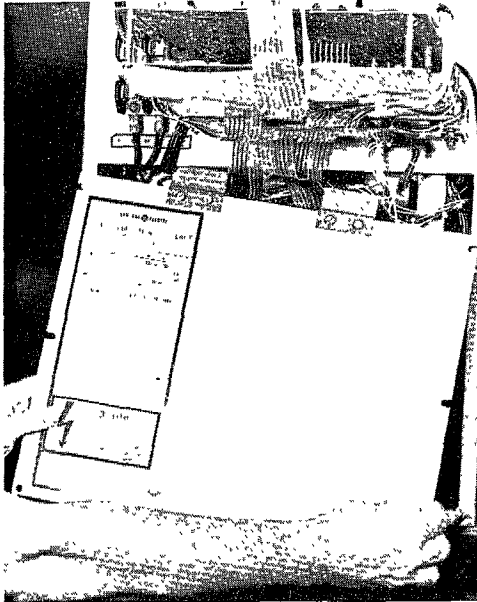

FIGURE 28A
- c. Remove the lower barrier by pulling out the bottom edge until it clears the two mounting studs, then pull down until the two clips at the top of the lower barrier clear the top barrier. (see Figure 28A)